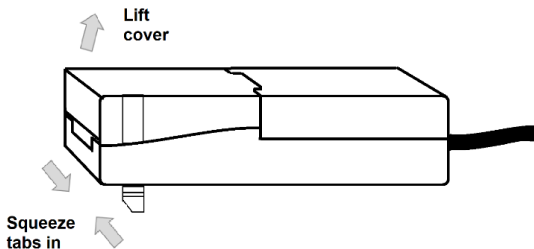

Fig. 1
- Open the driver enclosure to access the terminal block (see Fig. 1)